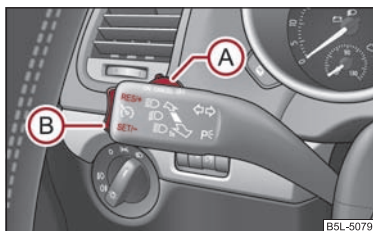

Fig. 117 Operating lever: Rocker button and switch of the cruise control system
The cruise control system is operated by means of the switch **A** ⇒ fig. 117 and the rocker button **B** in the left lever of the multi-functional switch.
- Press the switch **A** ⇒ fig. 117 into the position **ON**.
- You can **increase** the stored speed without depressing the accelerator, by pressing the rocker button (B) ⇒ page 112, fig. 117 in the **RES** position.
The **Resumption** of the stored speed is achieved by releasing the brake or clutch pedal, on vehicles fitted with automatic gearbox only after releasing the brake pedal and after shortly pressing the rocker button (B) ⇒ page 112, fig. 117 into the position **RES**.
- Press the switch (A) ⇒ page 112, fig. 117 to the right into position **OFF**. ■